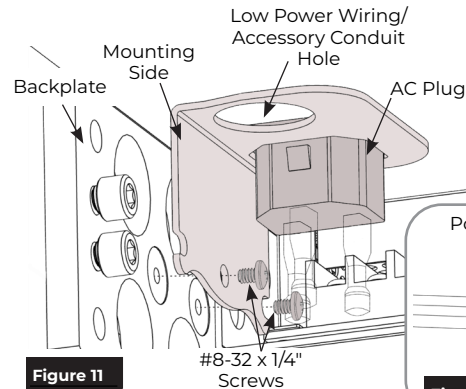
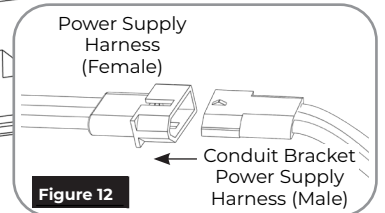

Figure 11
Figure 12
4. **Optional:** PC Conduit Bracket Assembly OR Surface Conduit Assembly installation. (Figure 11 - PC Conduit Assembly shown)
- Secure the bracket to the backplate using two (2) #8-32 x 1/4" machine screws.
- Plug the bracket's wiring harness into the pre-wired harness of the power supply. (Figure 12)